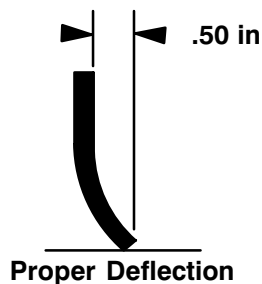

**Fig. 13**
12. With the squeegee assembly removed from the machine and placed on a level surface, adjust the height of the casters approximately 1/16" off the surface. Tighten nuts, 14mm wrench required (Figure 13).